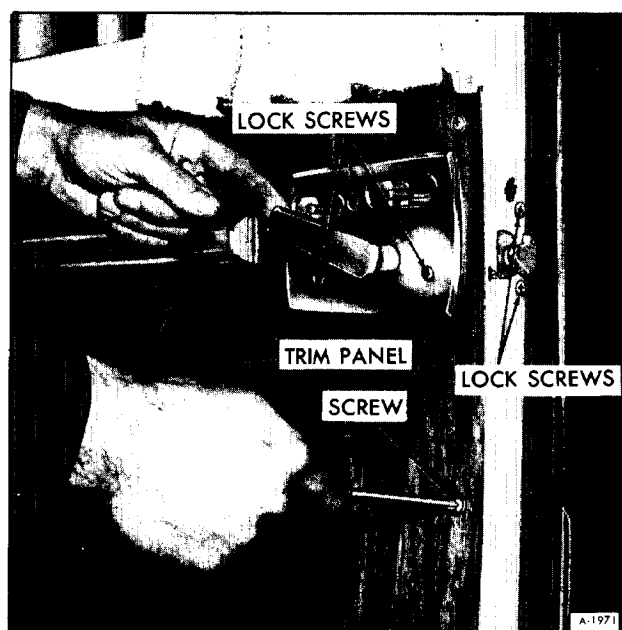

Figure 18-Removing Trim Panel
1. Remove door lock trim panel screws as shown in Figure 18.